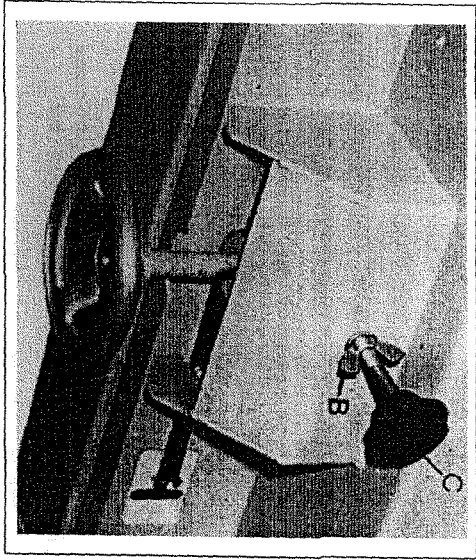

Fig 17
4. Track blade by rotating top wheel by hand in a clockwise direction, the root of the saw tooth should project the rim of the wheel by approximately 2mm (see FIGS 12 and 14). Should the blade require tracking loosen nut 'B' (FIG 17) then turn handwheel 'C' (FIG 17) until saw is tracking correctly. Then tighten nut 'B'.